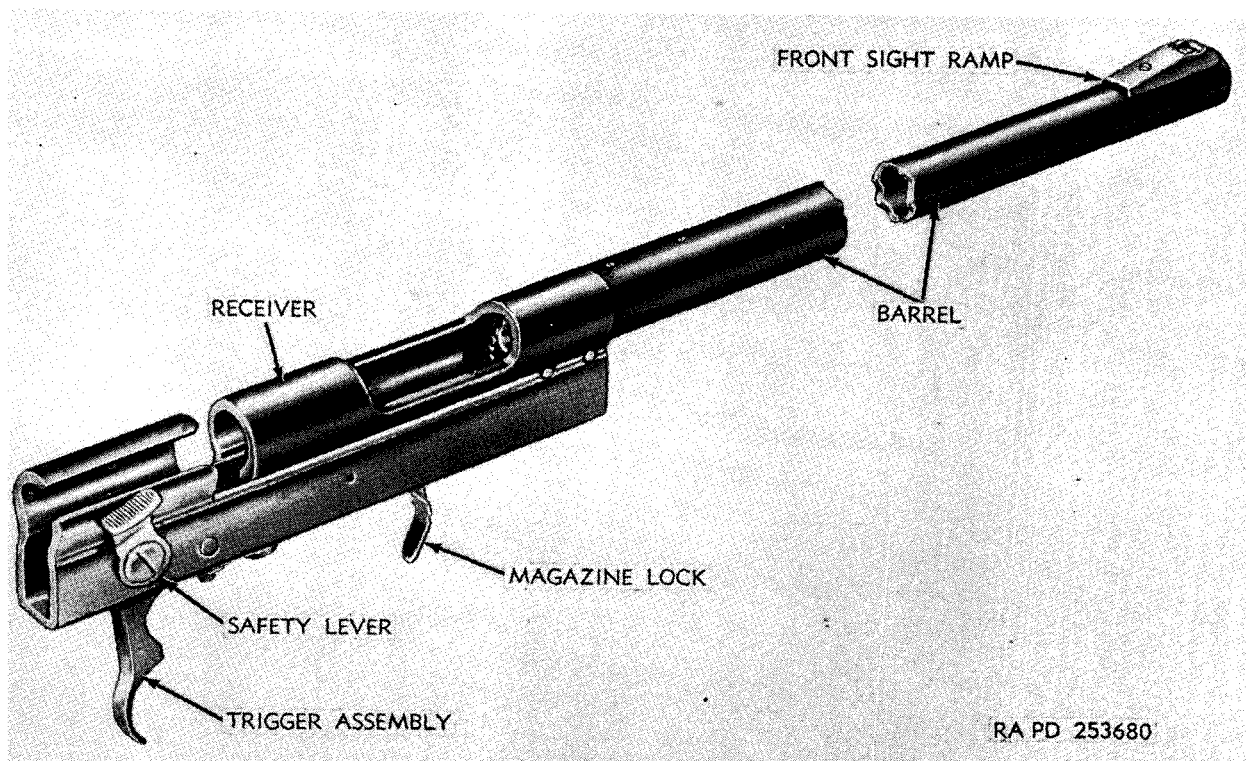

Figure 8. Barrel and receiver group (Remington rifle M513T).
- (4) *Barrel and receiver group* (fig. 8). The barrel and receiver group mounts in a machined mortise in the stock (C). The mortise is shaped to form a firm base for the rectangular shaped receiver (F) in the rear and one-half the length of the circular barrel (G) in the front. The barrel and receiver group is secured to the stock by one take-down screw (DD). The rear sight assembly (D) is located on the left-rear side of the receiver (F) while the